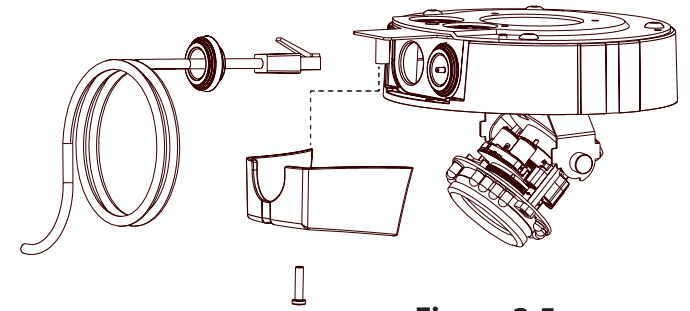

Figure 2.5
5. Place the plastic cable cover onto the dual-holed plate and attach it using the screw. (Figure 2.5)